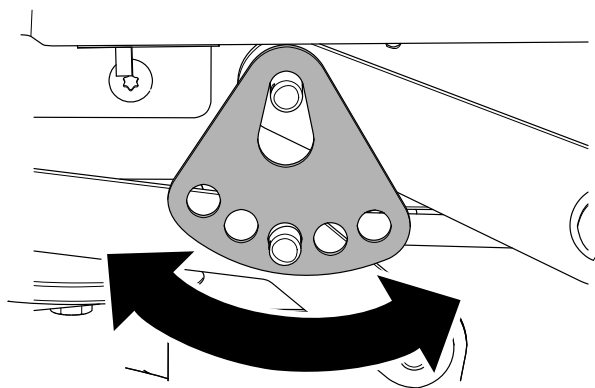

Figure 62
7. Rotate the height-of-cut plate to a different hole so that it supports the weight of the mower deck after you install the plate (Figure 62).
8. Install the washer and hairpin cotter (Figure 62).